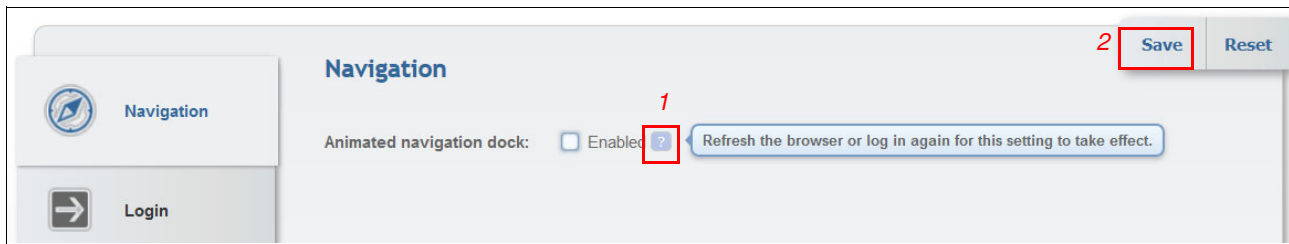

Figure 9-104 Navigation
Use the **Navigation** tab to enable or disable floating animations (Figure 9-104). You can display the online help by hovering the mouse over the question mark (?) symbol (1). Select the **Enabled** check box to have the floating menu, and then click Save (2).